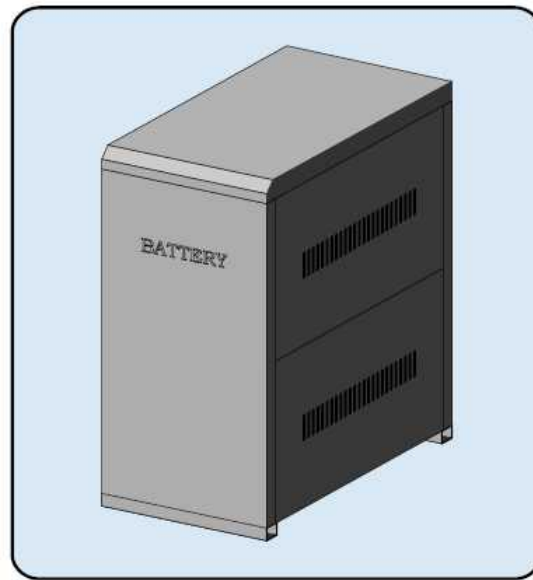

Figure 6
5. Cover the cabinet's cover. The installation of battery cabinet is completed. Shown as Figure 6.